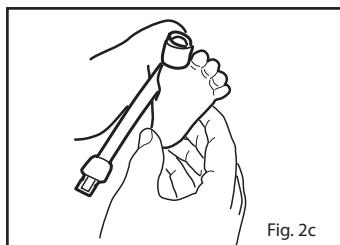

Fig. 2c
4. Refer to **Fig. 2c**. Ensure that the emitter window (\*) aligns on the top of the toe directly opposite the detector. Verify correct positioning and reposition if necessary.